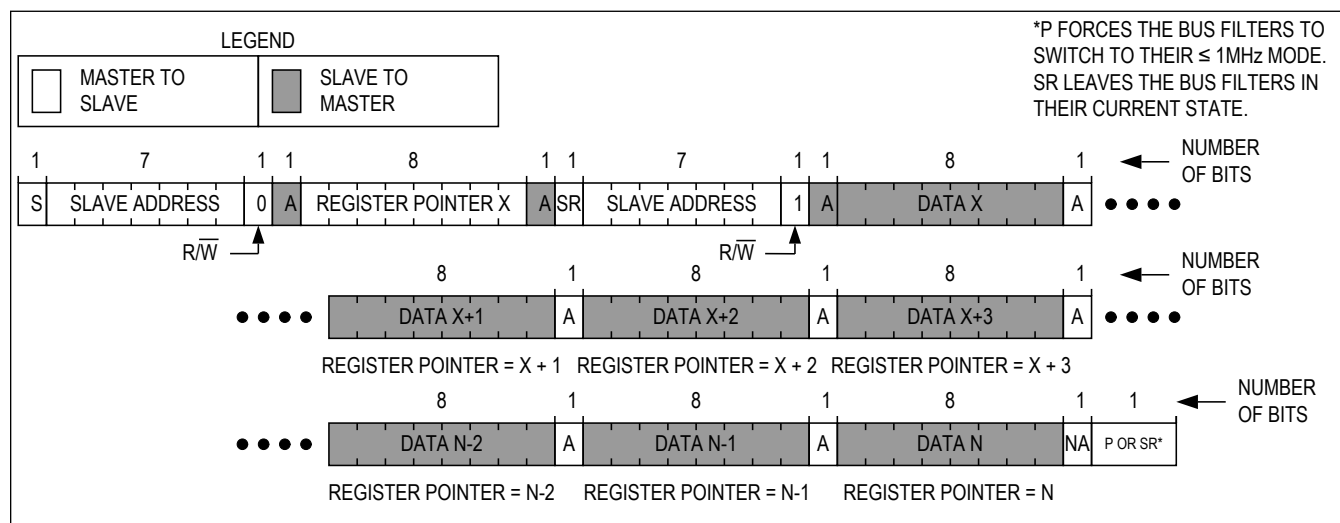

Figure 35. Reading Continuously from Sequential Registers X to N
Figure 35 shows the protocol for reading from sequential registers. This protocol is similar to the read byte protocol except the master issues an acknowledge to signal the slave that it wants more data: when the master has all the data it requires it issues a not acknowledge (nA) and a stop (P) to end the transmission. The continuous read from sequential registers protocol is as follows:
1. The master sends a start command (S).
3. The addressed slave asserts an acknowledge (A) by pulling SDA low.
10. The master issues an acknowledge (A) signaling the slave that it wishes to receive more data.